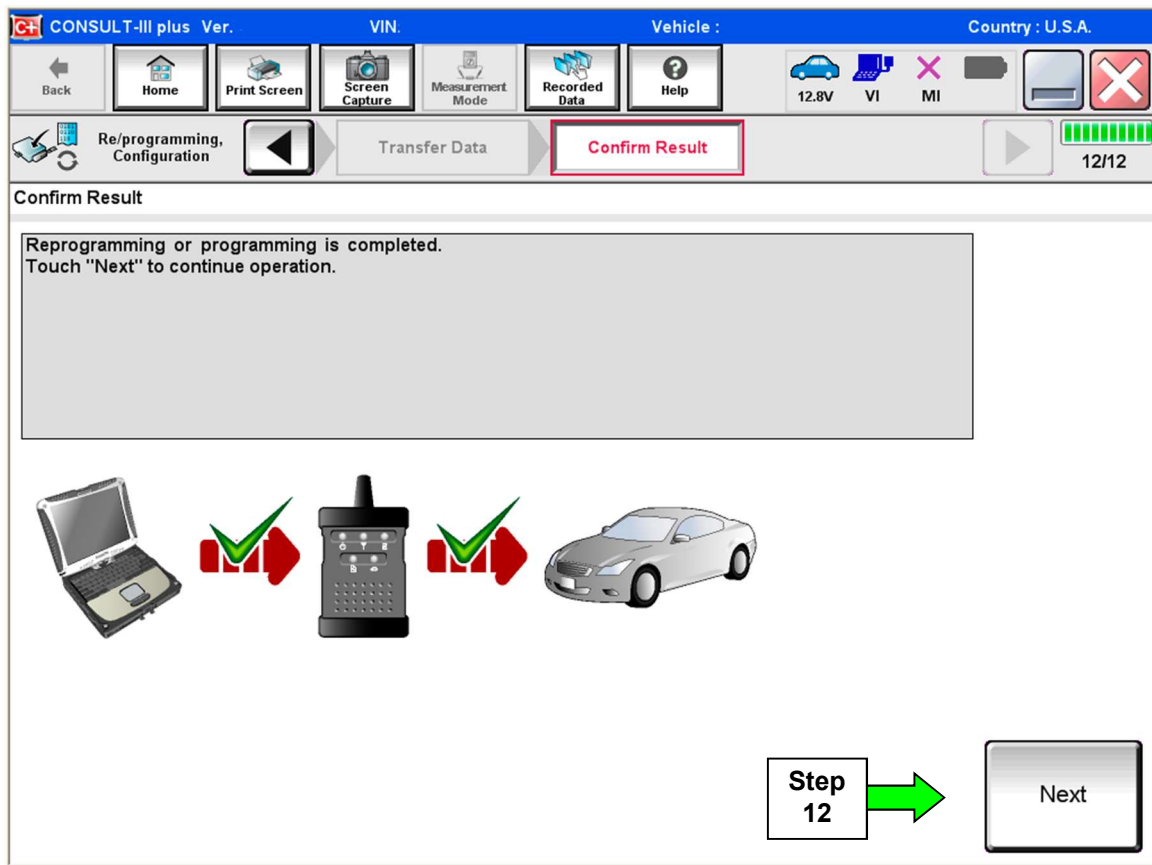

Figure 5
10. When the screen in Figure 5 displays, reprogramming is complete.
NOTE: If the screen in Figure 5 does not display (reprogramming did not complete), refer to the information on page 7.